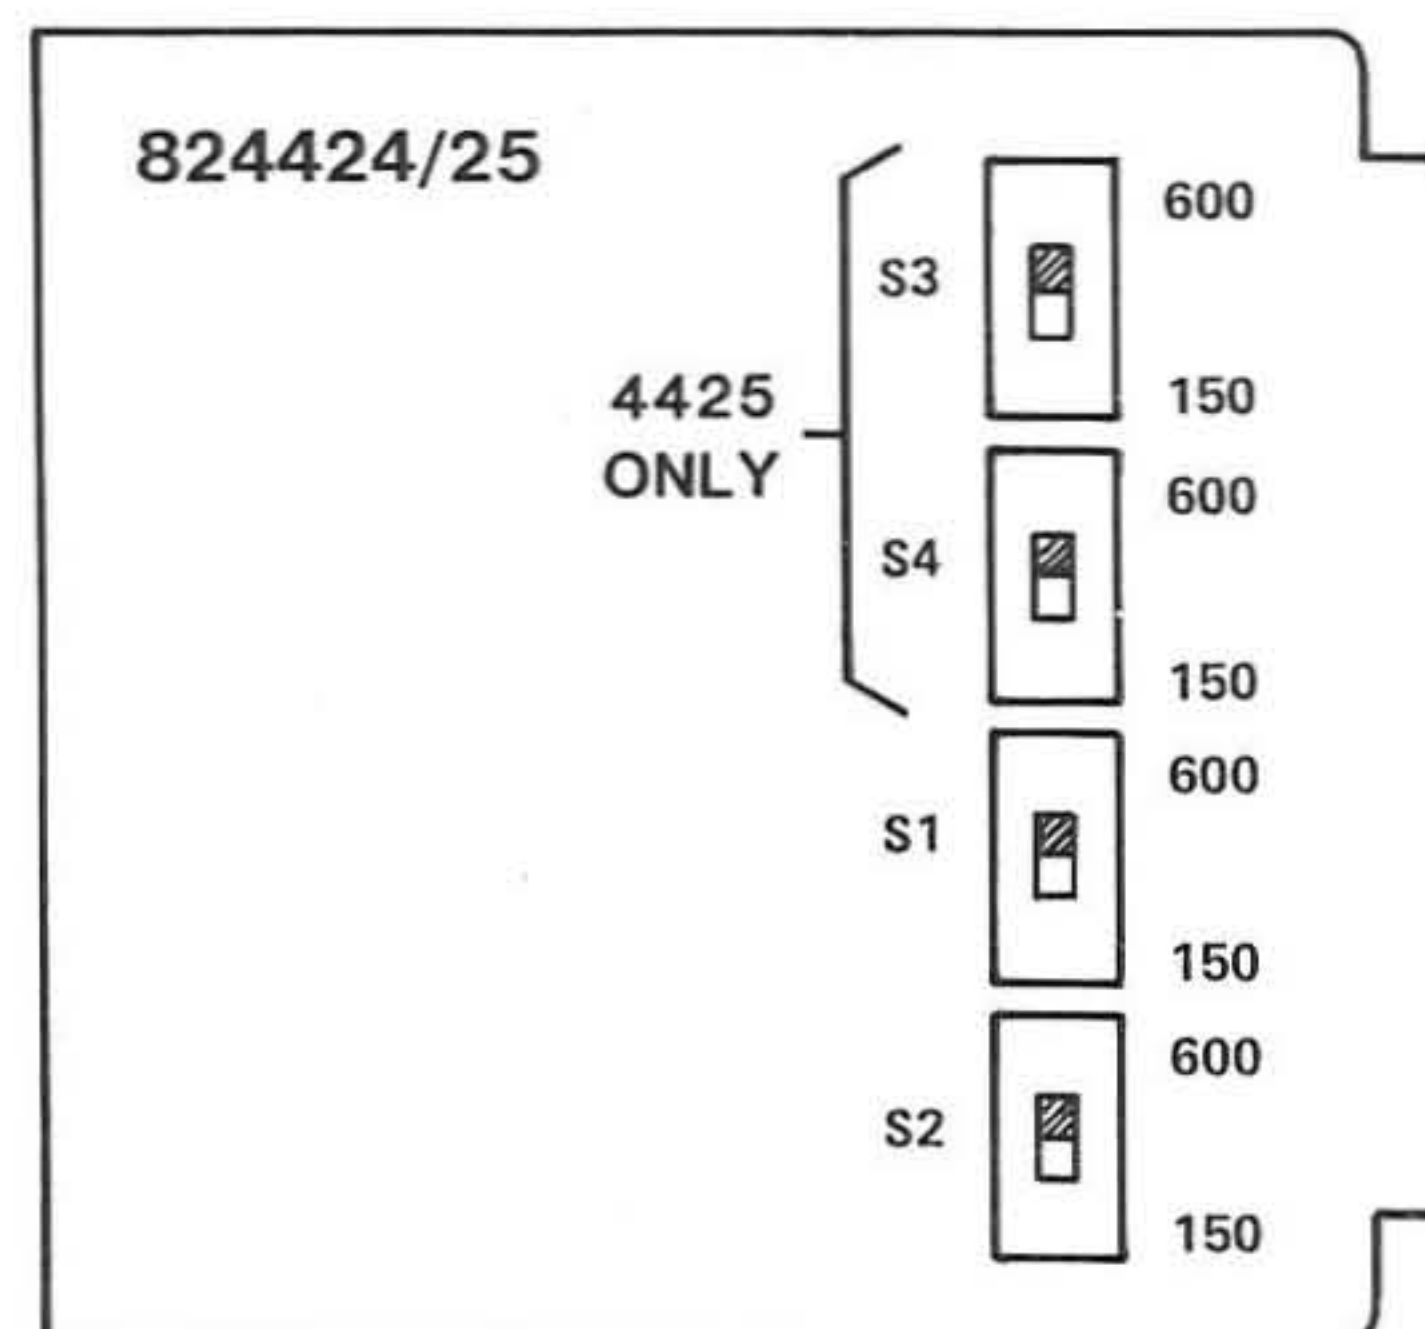

figure 2. 4424 and 4425 option switch locations
3.03 No alignment of the 4424 and 4425 is required. To option any port of the 4424 and 4425 for 600 or 150 ohm terminating impedance, set the option switch associated with that port to the 600 or 150 position, respectively. On the 4424, the terminating impedance on side 1 of the circuit (see **functional schematic**) is selected via switch S1 and on side 2 via switch S2. On the 4425, the terminating impedance on side 1 of circuit 1 is selected via switch S1 and on side 2 of circuit 1 via switch S2. The terminating impedance on side 1 of circuit 2 is selected via switch S3 and on side 2 of circuit 2 via switch S4. Switch locations are shown in figure 2.